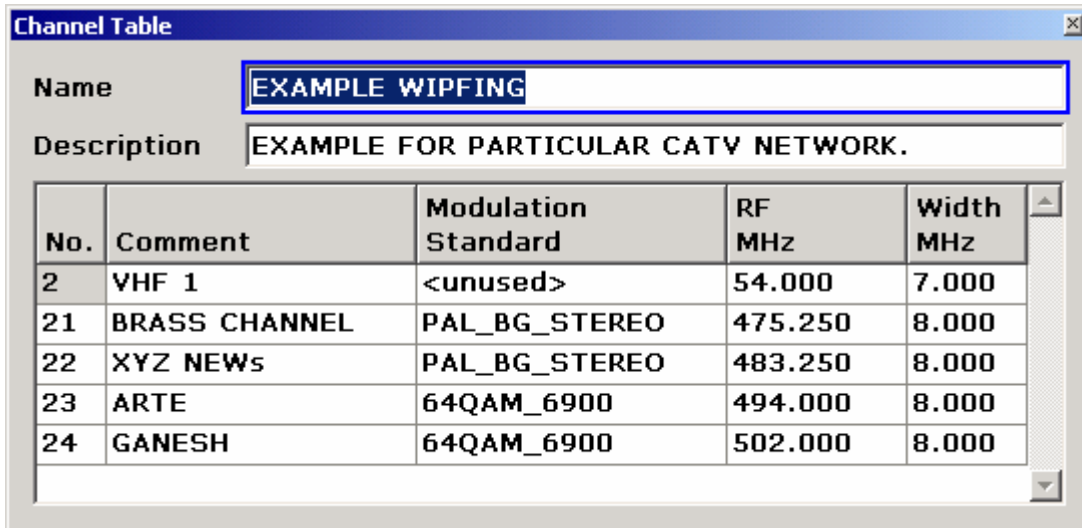

Fig. 2–45 The channel table and its properties
- Channel tables (see Fig. 2–45) have a **Name**. The name should comprise geographical information, e.g. "SOUTHAMPTON" or "EXAMPLE_WIPFING".